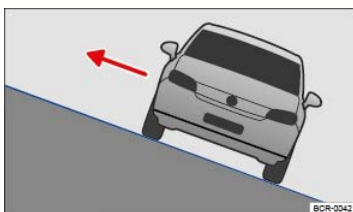

Fig. 125 On a slope, always exit on the uphill side of the vehicle.
- If the vehicle is stopped while pointed crosswise on a steep slope, make certain that no one exits the vehicle through a door on the downhill side. This can shift the vehicle center of gravity to the downhill side. The can tilt or roll over and roll down the hill. To help minimize this risk, always exit the vehicle through the doors that are facing uphill ⇒ Fig. 125.